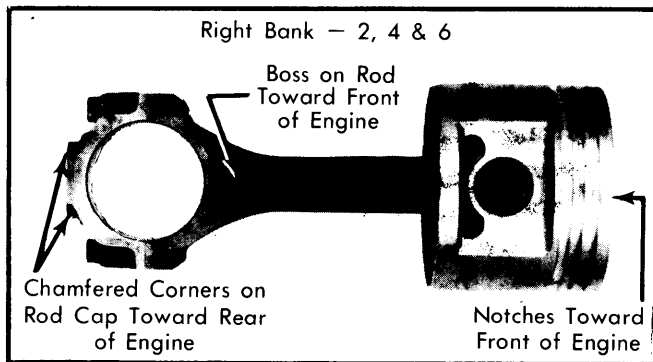

Fig. 6 Right Bank Piston & Rod Assembly
guides and install rod cap and bearing. Tighten rod cap nuts. See Figs. 6 and 7.
2) Inspect pin for wear and/or scoring. Check clearance of pin in piston. If clearance is excessive, piston and pin assembly must be replaced. Place piston on rod in correct position for bank in which piston and rod are being installed. See Fig. 6